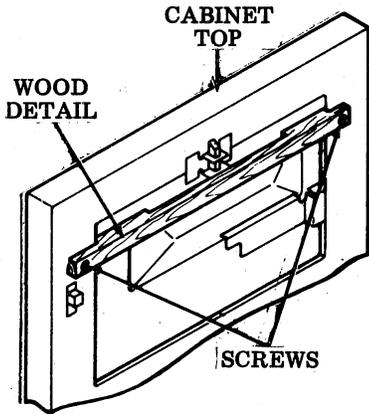

Fig. 14—Forms Access Printer Cabinet Top
3.13 Open front doors (left first) and depress latch button, open cabinet top and remove two screws and wood detail. (Fig. 14).